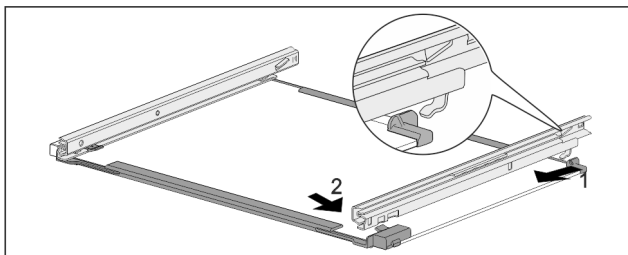

Fig. 254 Glass shelf with rails
- Hook in rail at the back. Fig. 254 (1)
- Hook in rail at the front. Fig. 254 (2)